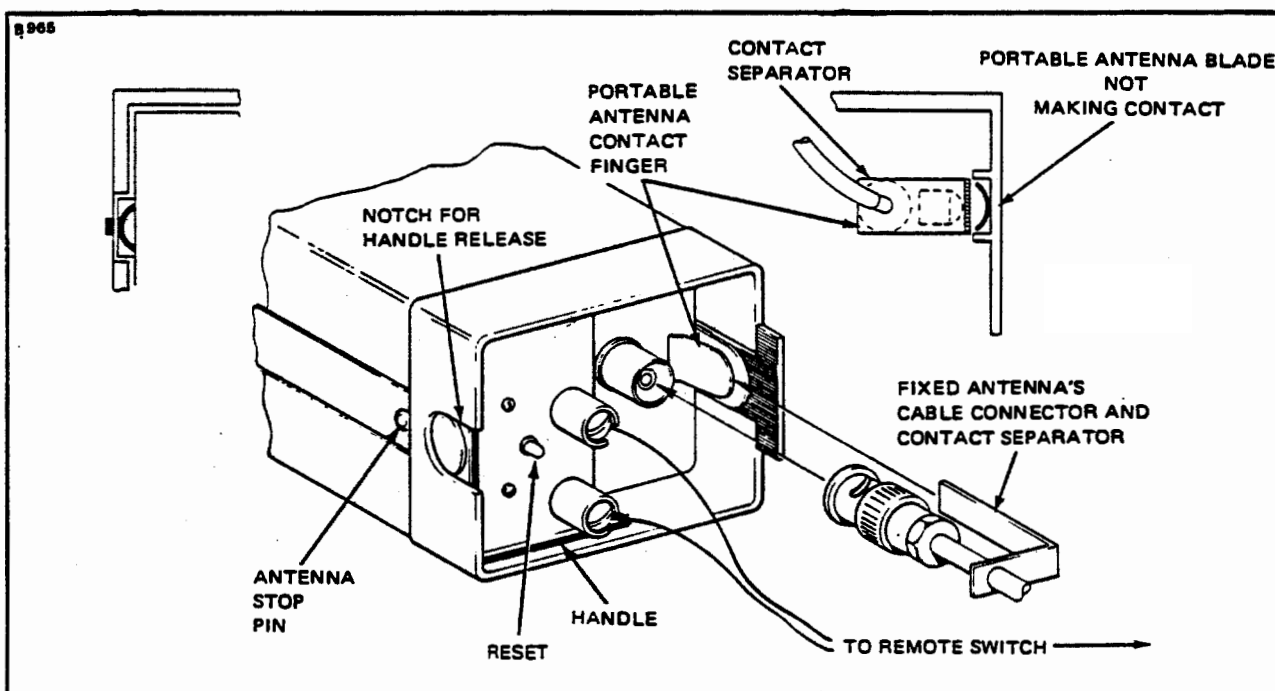

Figure 12-5. ELT Using Fixed Aircraft Antenna (Narco)
- l. Connect the antenna coaxial cable to the ELT and ensure that the contact separator is inserted between the antenna contact finger and portable antenna. (Refer to Figure 12-5.)